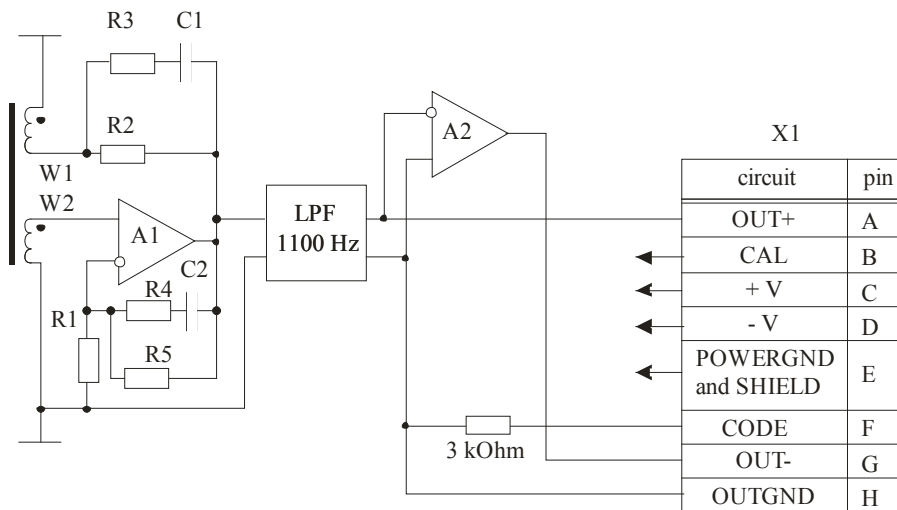

Fig.3. Simplified functional diagram of induction coil magnetometer LEMI-120
5.2. The sensor part consists of a magnetic core, the main winding W2 and a magnetic feedback winding W1 (Fig.3). The magnetic core is made of a number of μ -metal tapes, insulated from one another and installed inside the protective tube on which both windings are made. A set of electrostatic screens are installed to reduce the interference to a negligible minimum value.
5.3. The electronic unit consists of two circuit boards fixed to the internal part of the magnetometer front panel. A simplified functional diagram of the unit is presented in Fig. 3.